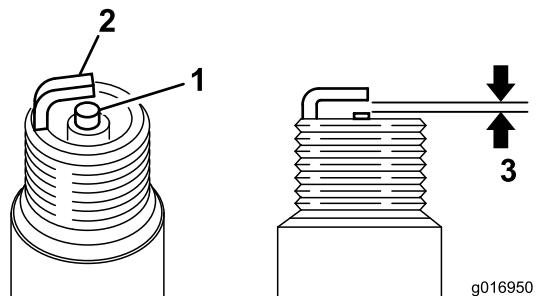

Figure 36
3. Set the air gap at 0.6 to 0.7 mm (0.024 to 0.028 inch) (Figure 36). Install the correctly gapped spark plug and tighten it firmly to 23 N·m (17 ft.-lb).